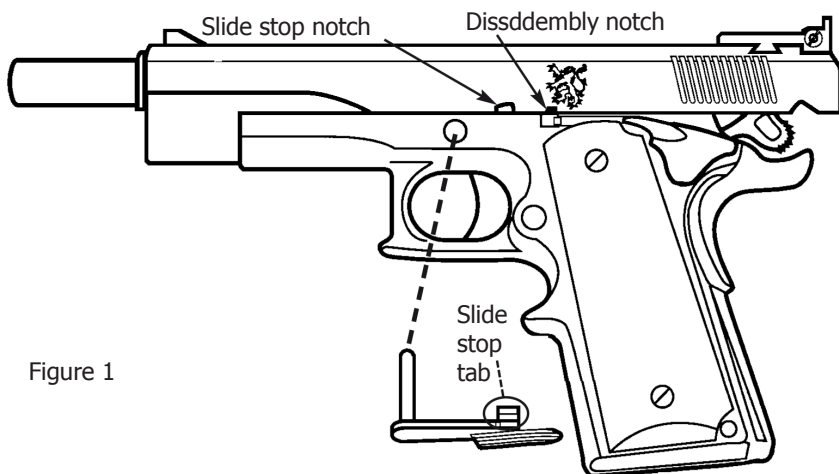

Figure 1
1. Make sure that the pistol is unloaded. Remove the magazine and clear the pistol by racking the slide to the rear, as shown in figure 1, and locking it into position. Physically and visually inspect the chamber of your pistol's barrel to ensure that there is no cartridge in the chamber. Once this step has been accomplished you may then move on.